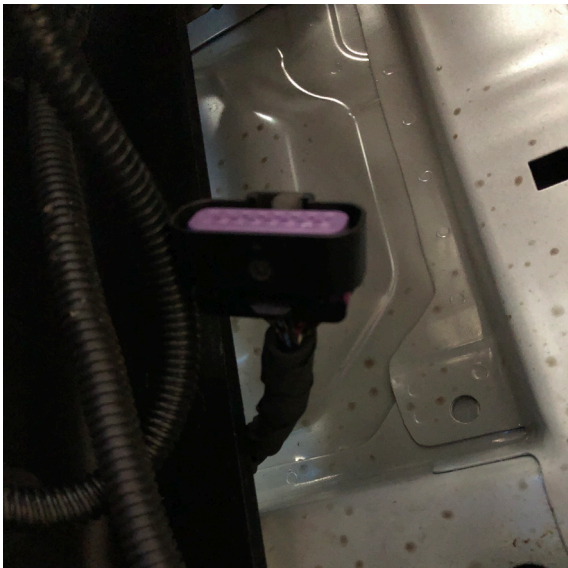

Figure 17 - Chevy PTO Connector Location
2. Route the "PTO" connector to Chevy PTO connector located near the passenger side frame rail under cab. Reference Figure 17 for location.